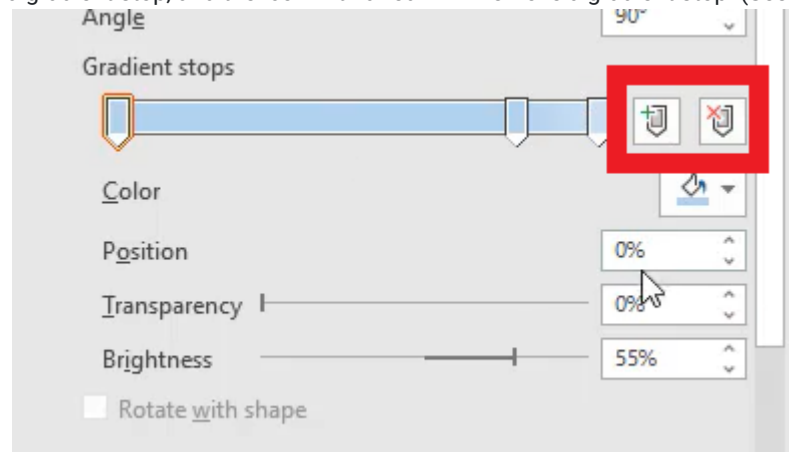

Figure 37.36
- a. To add or remove a gradient stop, select the icon to the right of the Gradient Stop bar; the icon with the green plus sign will add a gradient stop, and the icon with a red x will remove a gradient stop. (See **Figure 37.36**)